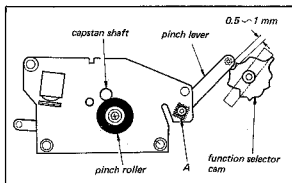
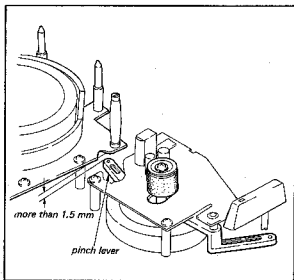
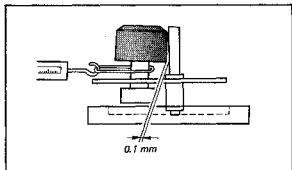

Fig. 4-24. Capstan deck adjustment
Fig. 4-26. Pinch lever adjustment
Fig. 4-27. Pinch roller adjustment
- Set the Function Lever to **FORWARD**. Check that the clearance between the Pinch Lever and the Function Selector Cam is 0.5 to 1 mm. If necessary, readjust the position of the Capstan Deck Assembly. See Fig. 4-24.
- Set the Function Lever to **FORWARD**. Check that the clearance between the upper end of the Pinch Lever and the lower end of the Drum Mounting Deck is more than 1.5 mm. See Fig. 4-26. If it needs adjustment, bend "A" in Fig. 4-24 with a pair of pliers.
1. Set the Function Lever to FORWARD. Check for 0.1 mm clearance between the lower end of the Pinch Roller and the Capstan Shaft when the upper end of the Pinch Roller contacts the Capstan Shaft. See Fig. 4-27. Bend "A" in Fig. 4-24, with a pair of pliers as needed to obtain the correct spacing.
2. Place the Function Lever in the FORWARD position. Make a loop in a piece of string and attach the spring scale around the base of the Pinch Roller Shaft. See Fig. 4-27. Pull the scale in the direction indicated by the arrow. Check the reading when the Pinch Roller just leaves the Capstan Shaft. It should be between 1.5 and 2.2 kg.